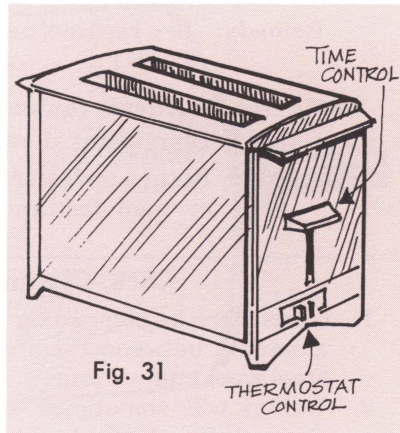

Fig. 31
2. Never put toaster in water to clean. Use a damp cloth—not wet—to wipe inside. Whiting and soap or any mild abrasive may be used to clean stains or grease spots from metal parts of toaster. A soft bristle brush should be used to clean bread crumbs from inside. It may be necessary to remove bottom plate. Fig. 31.